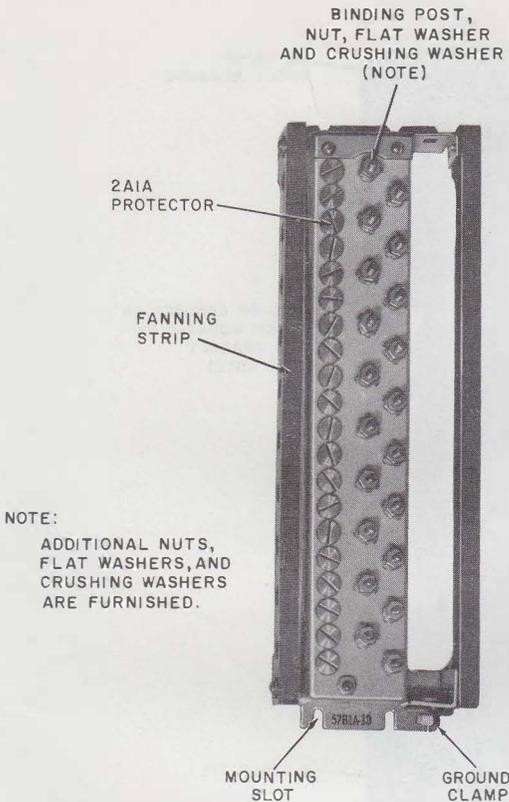

Fig. 16—57B1A-10(MD) Connecting Block
3.22 The 57B1A-type (MD) connecting blocks consist of binding posts and 2A1A protector units in injection-molded blocks. The blocks are equipped with insulation-crushing hardware, fanning strips, and a ground clamp. The ground clamp permits the connection of a station protector ground. The connecting block should be grounded with a wire no smaller than a No. 6 ground wire (see Table B). The connecting blocks were made in 10-, 16-, 25- and 50-pair sizes (see Table C). Fig. 16 shows a 57B1A-10 connecting block. The 57B1A-type connecting block may be installed in G-type terminal boxes, 1A1 or H202 cable terminal sections (see Section 461-603-100).